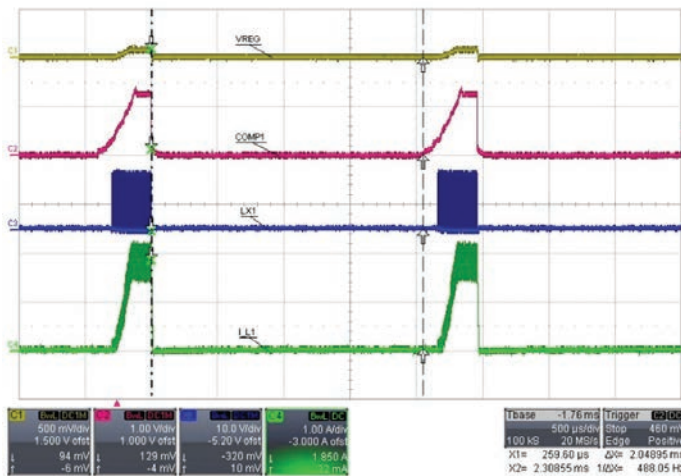

Figure 4: Pre-regulator hiccup mode operation when VREG is shorted to GND, $f_{OSC} = 2$ MHz.
6. Hiccup short-circuit protection, shown in Figure 4
For the pre-regulator, hiccup mode is enabled during soft-start after $t_{HIC1(EN)} f_{OSC}$ cycles (512). If V_{VREG} is less than 1.3 V, the number of overcurrent pulses (OCP) is limited to only 30. If V_{VREG} is greater than 1.3 V, the number of OCP pulses is increased to 120 to accommodate the possibility of starting into a relatively high output capacitance. The time between restart attempts or the hiccup recovery time is $t_{HIC1(REC)}$ ($4096 f_{OSC}$ cycles), as indicated by the vertical cursors in Figure 4.